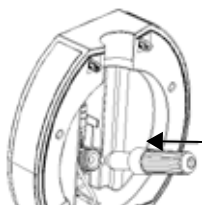

Fig.7
2. Insert an unused 16 gramme CO₂ pressure cartridge (Fig. 7).